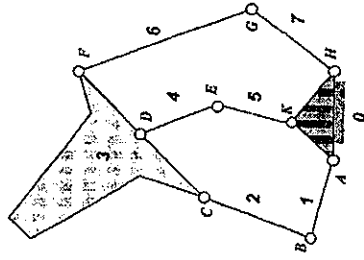

Figure 1
- (a) A linkage mechanism is shown in Figure 1.